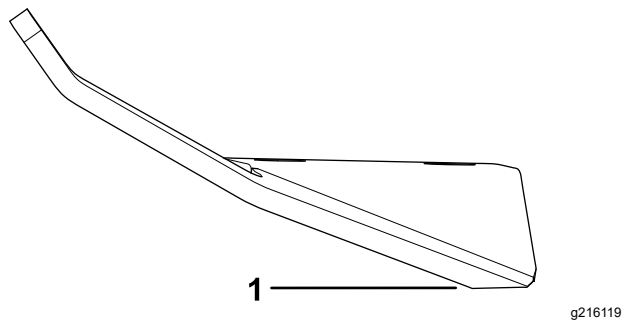

Figure 108
1. Use a file or sharpening tool to sharpen the cutting edge at both ends of the blade assembly (Figure 108).
Note: If the blade assembly is not balanced, file some metal off the heavy end of the blade in the sail area only (Figure 108).